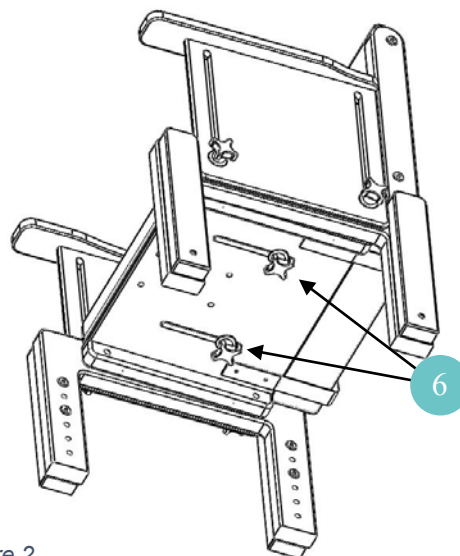

Figure 2
- Loosen handwheels (Ref. 6 of Figure 2)
- Tighten handwheels (Ref. 6 of Figure 2) when the seat depth is set to the desired position.